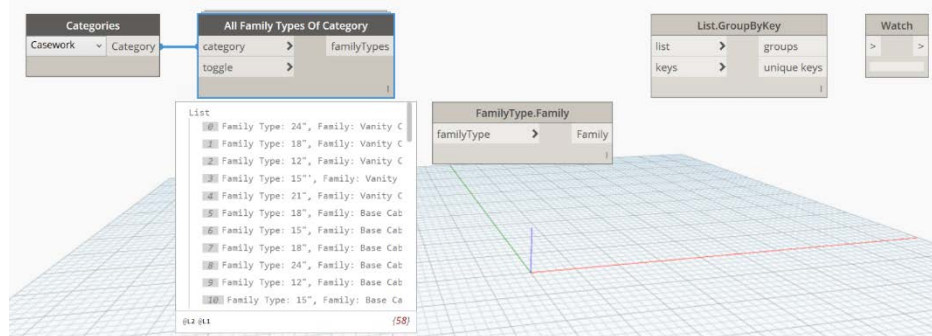

Figure 46
12. From the drop-down list on the **Categories** node, choose: **Casework** and then expand the preview bubble (see Figure 46).